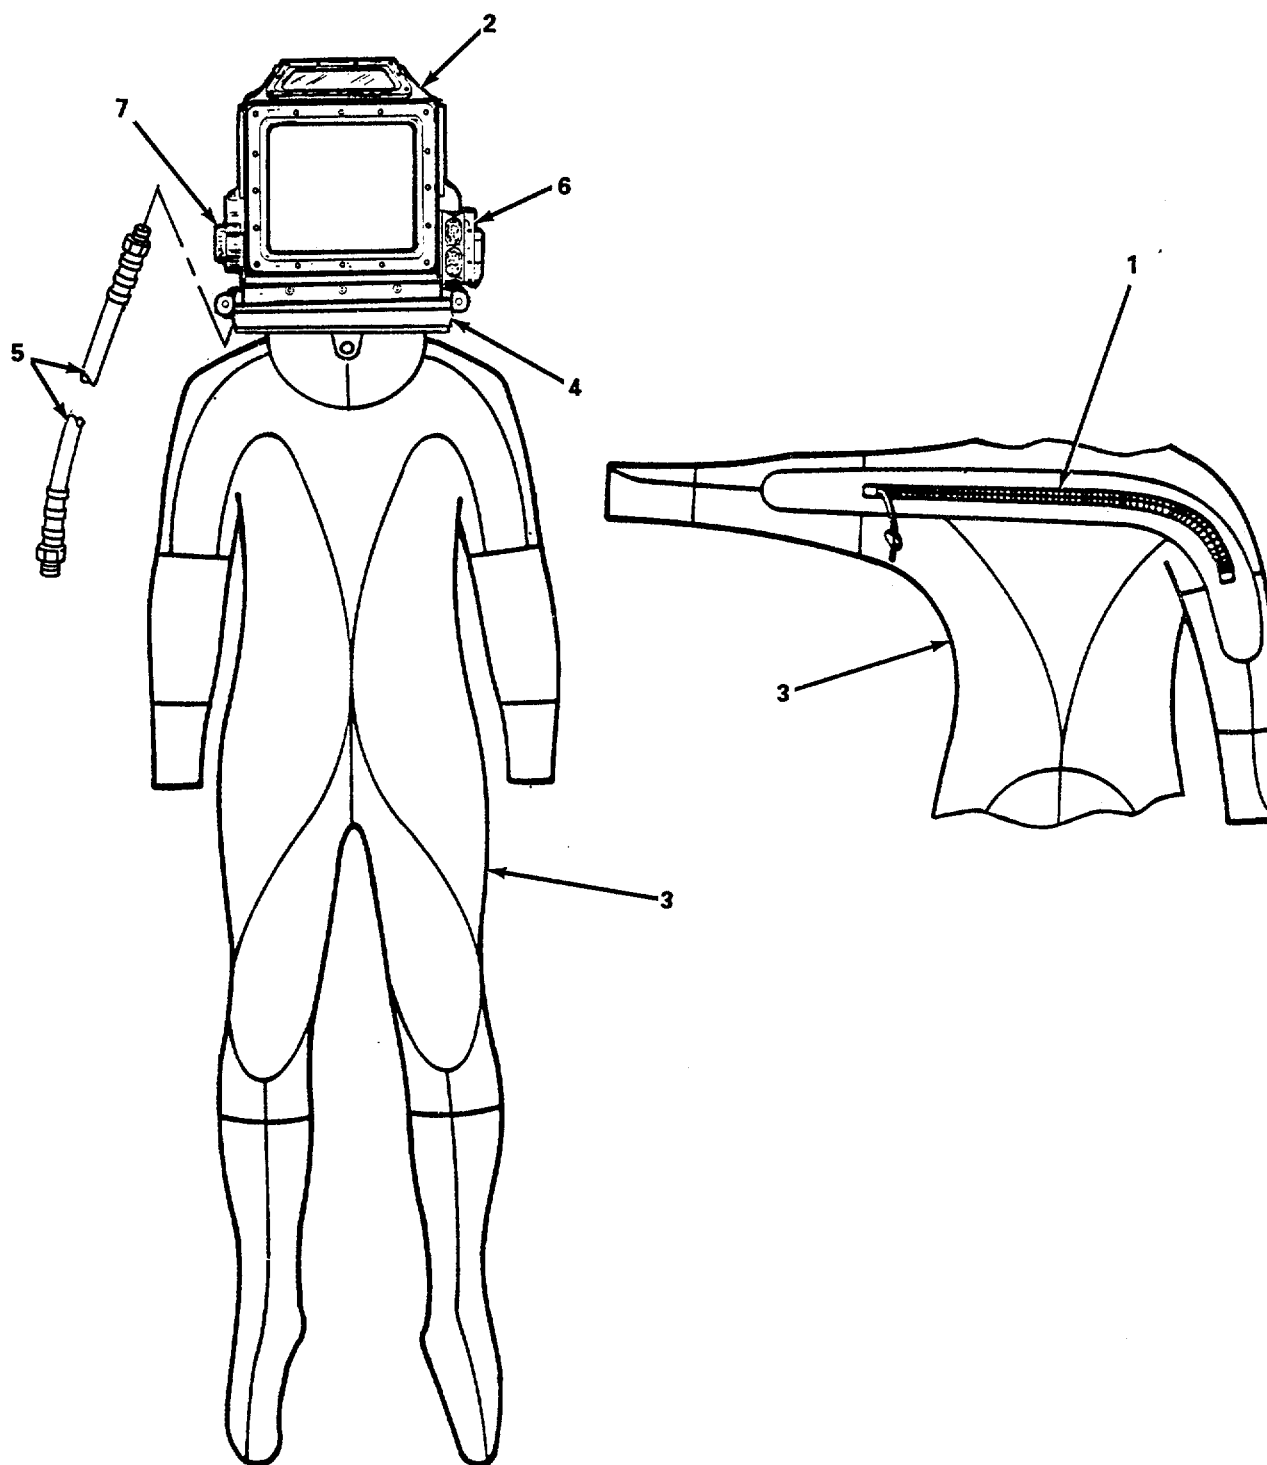

Figure 2-5. Drysuit Leak Test.
d. Drysuit Leak Test (figure 2-5).